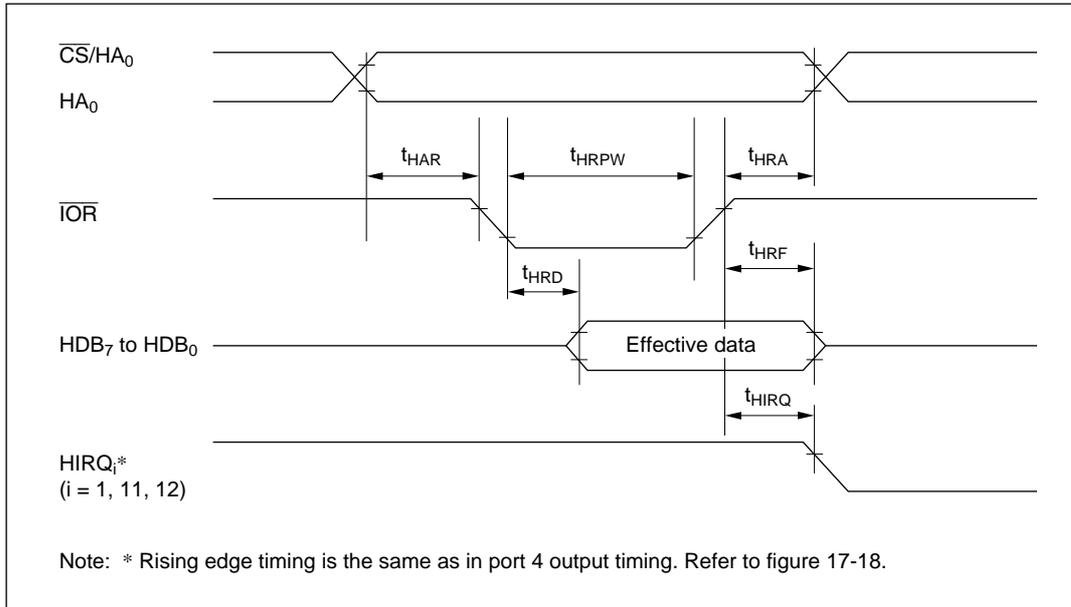

Figure 20-19 Host Interface Read Timing
20.3.8 Host Interface Timing	Figures 20-19 and 20-20